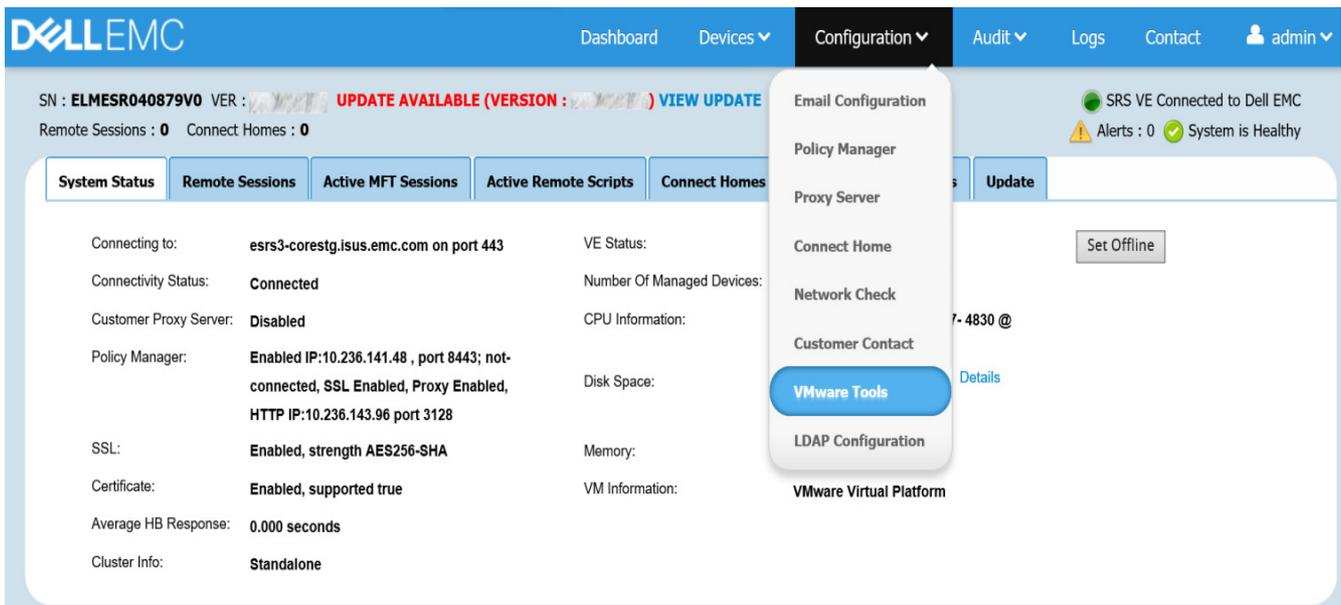

Figure 60 Selecting VMware Tools
1. Navigate to the SRSv3 Web UI -> **Configuration** -> **VMware Tools**, as shown in Figure 60.